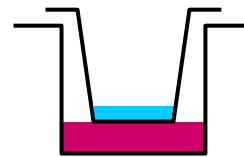

Figure 2
7. QUICKLY pipet BD PuraMatrix/cell mixture into a 24-well insert (**Figure 2**). When dispensed into the center of the insert, the material will spread evenly over the surface.